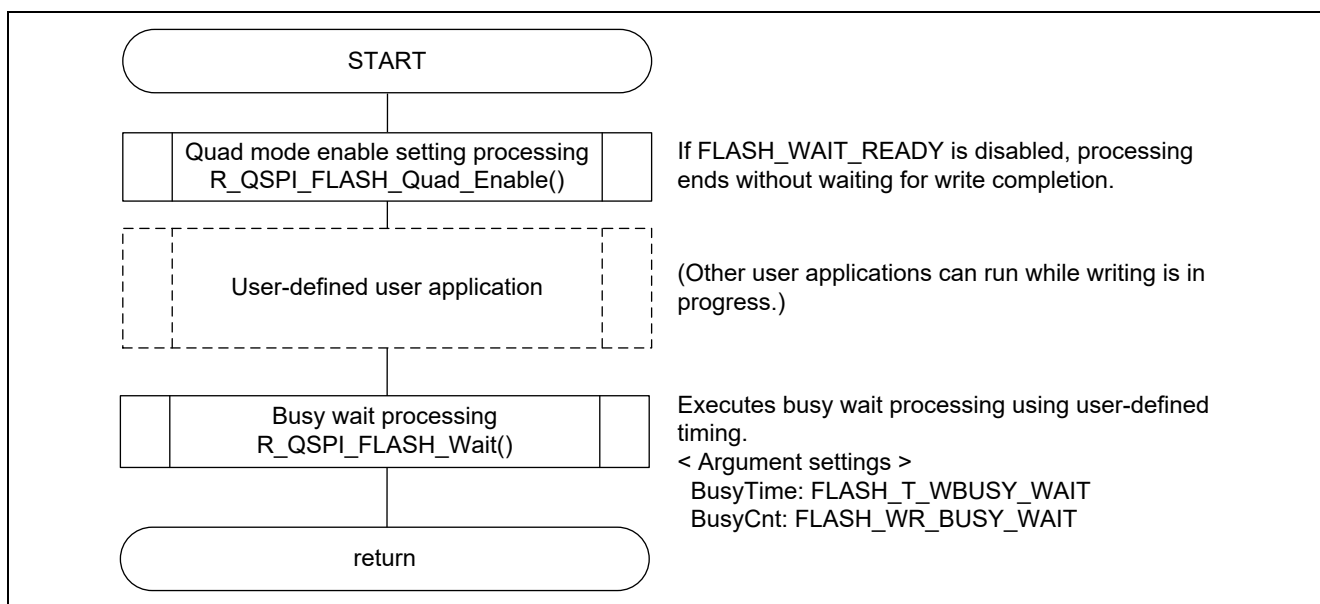

Figure 5.17 Waiting for Quad Mode Enable Setting to Finish Using R_QSPI_FLASH_Wait()
Description	<ul style="list-style-type: none"> • Sets the quad enable (QE) bit in the status register to 1 to enable quad mode. • When using quad mode, call this function beforehand. • After processing finishes, read the status register to confirm the setting of the QE bit. • The quad enable (QE) bit is non-volatile. To disable quad mode after it has been enabled once, run quad mode disable setting processing. • There are two methods of waiting for the write to finish. These are shown below. Note that the next processing (write, read, erase, etc.) should be run after confirming that the write has finished. <ul style="list-style-type: none"> < Using this user API to wait for the write to finish > Enable FLASH_WAIT_READY in r_qspi_flash_mx25l.h. < Not using this user API to wait for the write to finish > Disable FLASH_WAIT_READY in r_qspi_flash_mx25l.h, and call R_QSPI_FLASH_Wait() after processing by this user API has finished. This processing method allows you to perform write-end wait confirmation at any time you wish. Refer to figure 5.17 for instructions.